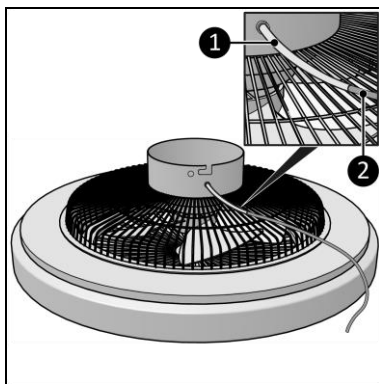

Figure 7
1. Place the end of the extension cord (Figure 7, pos. 2) through the protection sleeve, (Figure 7, pos. 1) through the hole of the fan base.